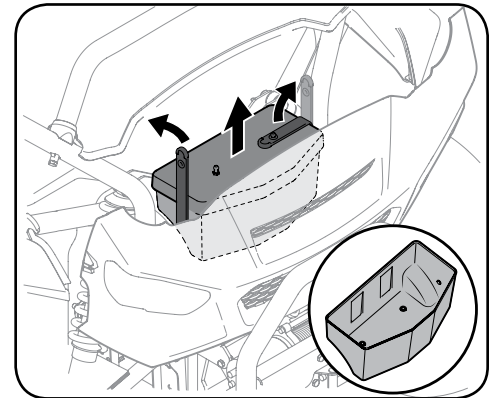

Figure 4-9
2. Unhook the two rubber straps holding the top cover on and remove the top cover. See Figure 4-9.